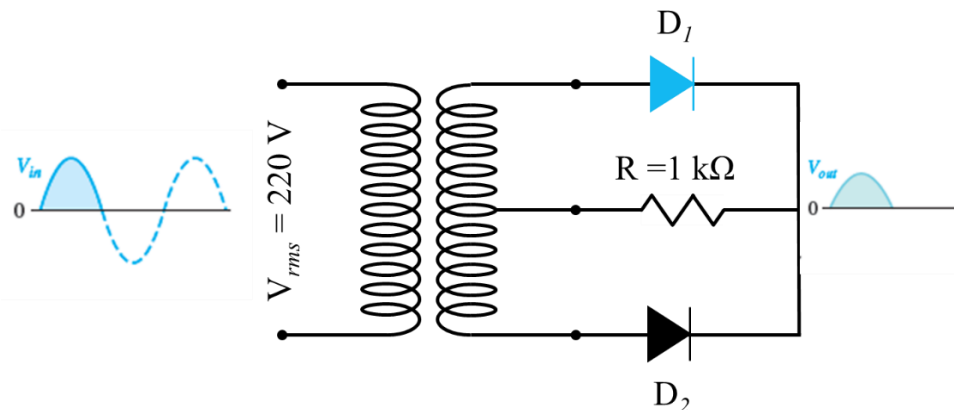

Figure 1: During positive half-cycles,  $D_1$  is forward-biased, and  $D_2$  is reverse-biased.
The circuit of a center-tapped full wave rectifier uses two diodes  $D_1$  and  $D_2$ . During the positive half cycle of secondary voltage, the diode  $D_1$  is forward-biased, and  $D_2$  is reverse-biased. Therefore, the diode  $D_1$  conducts, and current flows through load resistor  $R_L$ , as shown in Fig. 1.
1. Connect the circuit as shown in Fig. 1 using a center-tapped transformer, two diodes, a  $1k\Omega$  resistor ( $R_L$ )